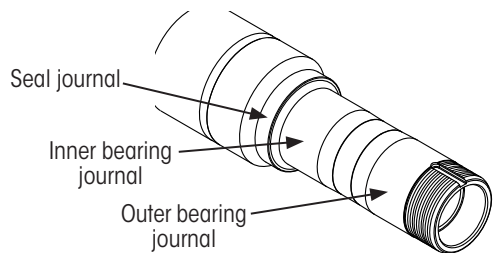

Figure 8: HP Spindle seal & bearing journals
2. **Inspect** machined spindle journals (Figure 8) for nicks, scratches, burrs or marks. If needed, use crocus cloth or emery cloth to repair any damaged areas.
1. Taking care not to damage the seal, **gently slide** the hub onto spindle until the seal is against the spindle seal journal (Figure 8).